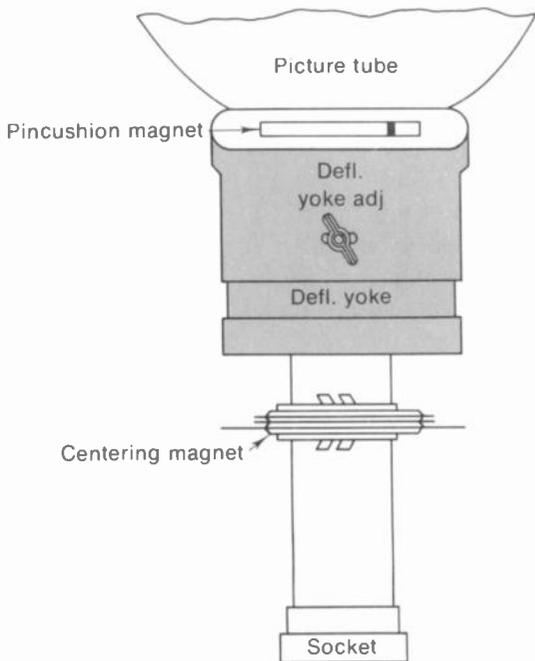

FIGURE 10-2 PLACEMENT OF DEFLECTION YOKE AND CENTERING MAGNETS ON MONOCHROME PICTURE TUBE.
**Deflection yoke adjustment.** In Fig. 10-2 note that the yoke is placed forward on the neck of the picture tube, against the wide bell of the
Monochrome picture tubes usually have a pair of permanent magnet rings for centering, as shown in Fig. 10-2. When the tabs are together, the magnetic poles are opposing. Then there is no field to displace the beam. Spreading the tabs apart increases the field strength. Then rotating the assembly of both rings can move the beam horizontally, vertically, or at an angle, by the amount needed for centering.